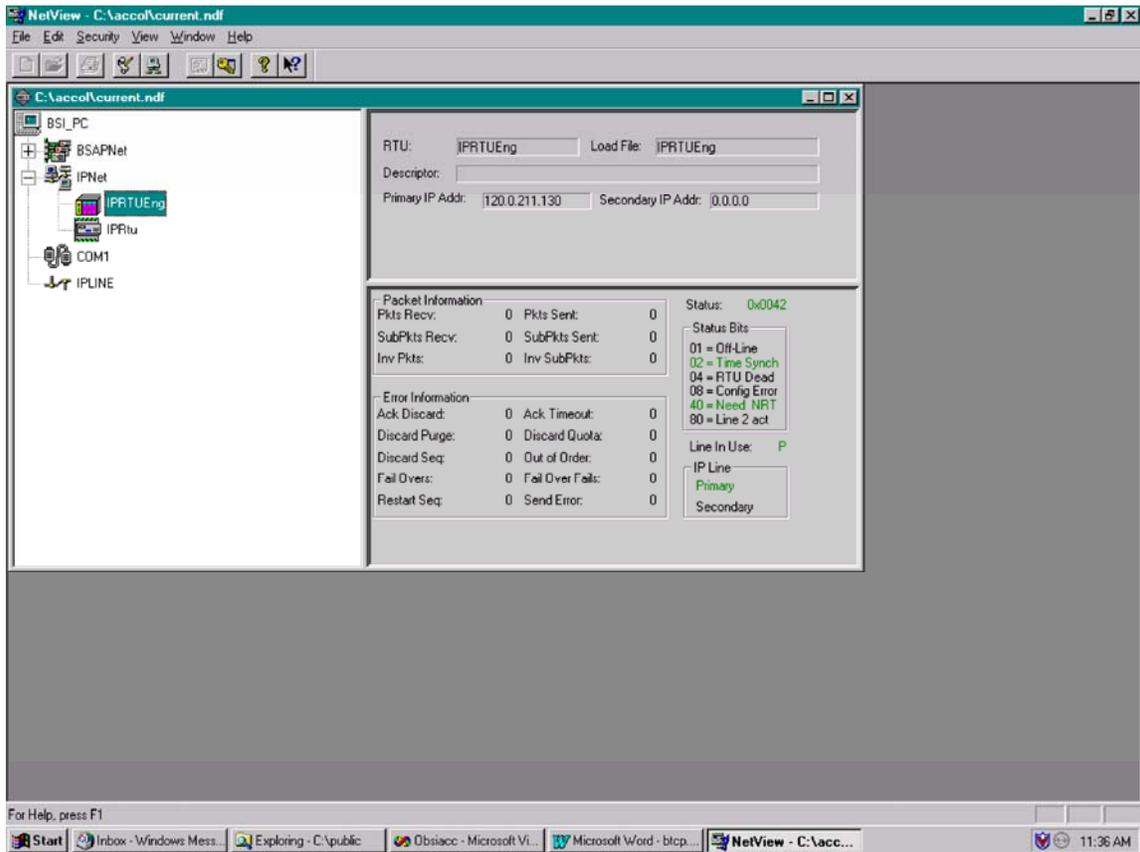

Figure 20 - NetView Startup Menu - Example with Multiple Networks
1. Start the OpenBSI NetView Program. A menu similar to Figure 20 will appear.